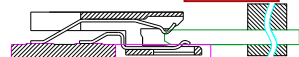

Fig. 8.4
**Step 3rd:** Rotate the module to horizon by hand (Fig. 8.4).